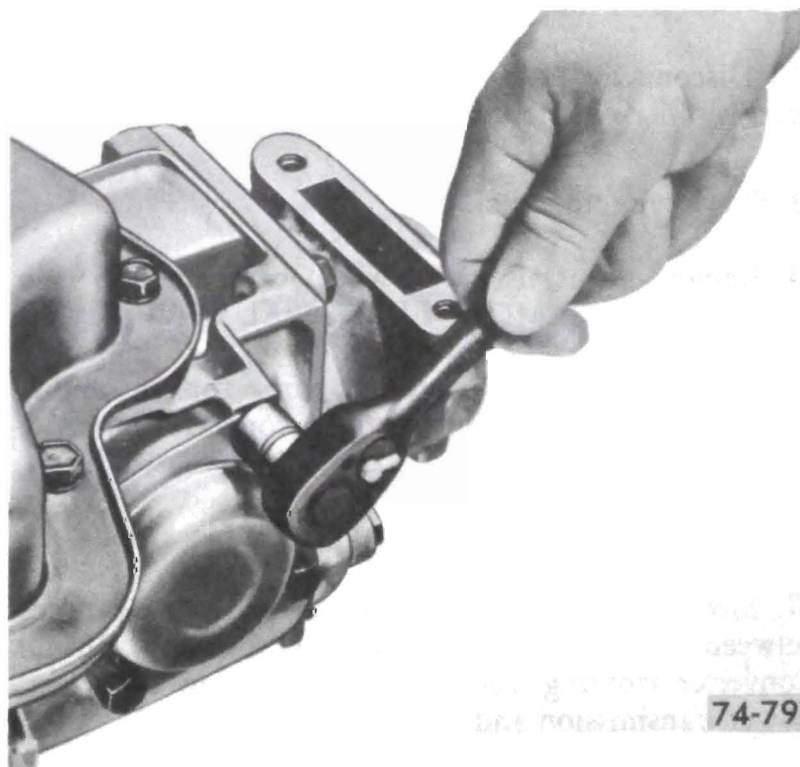

Figure 76-54
2. Attach the governor cover and new gasket with four (4) attaching bolts. Torque bolts to 15-20 lb.ft. See Figure 76-54.